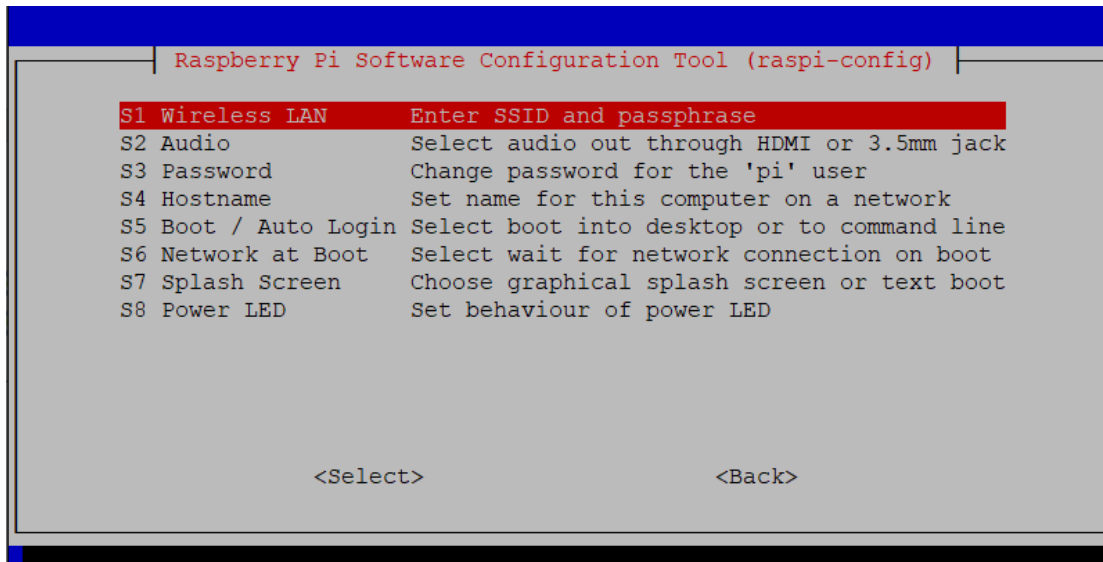

Figure 119 Enter WiFi SSID and password
Step 3. WiFi SSID and password can be entered with this interface too. Select item 1 “System options”, then select “S1 Wireless LAN” to enter the WiFi’s SSID and password (Figure 119). Reboot the gateway to apply the changes.